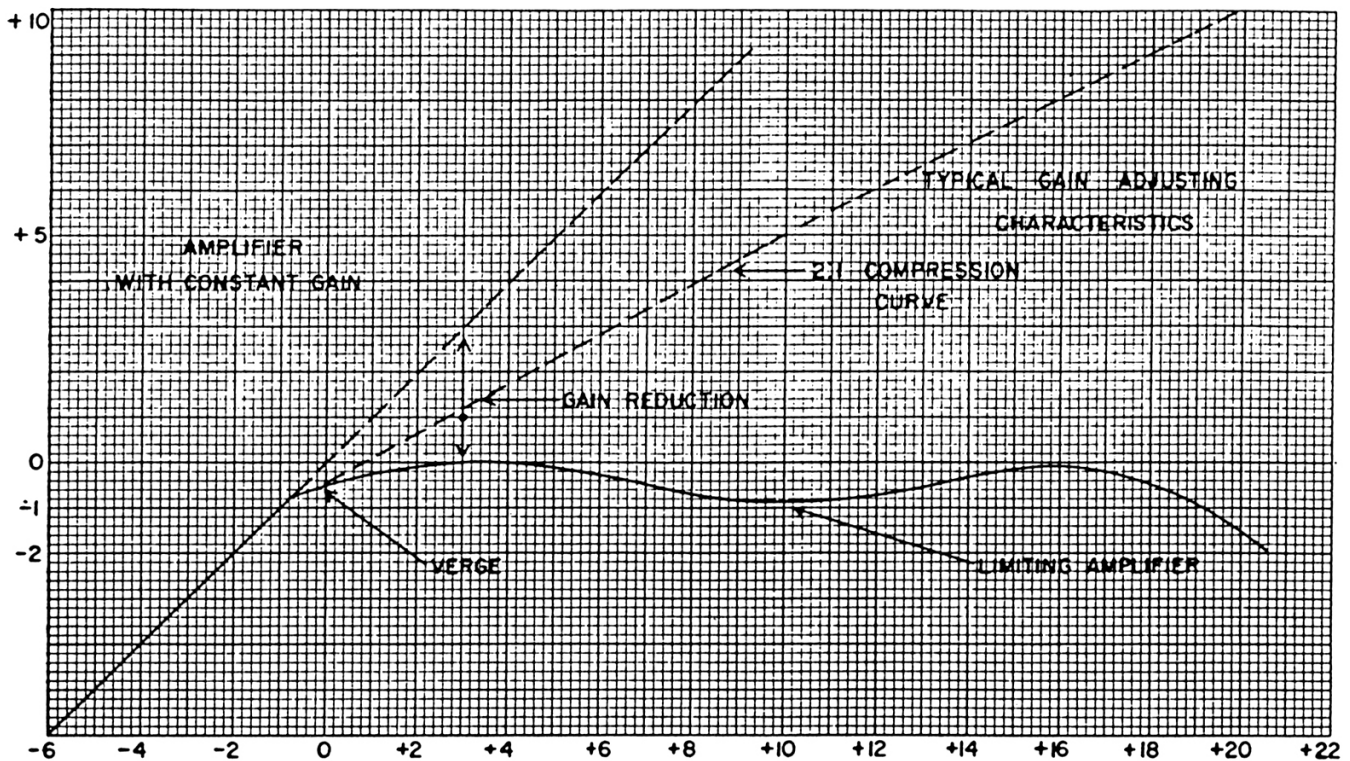
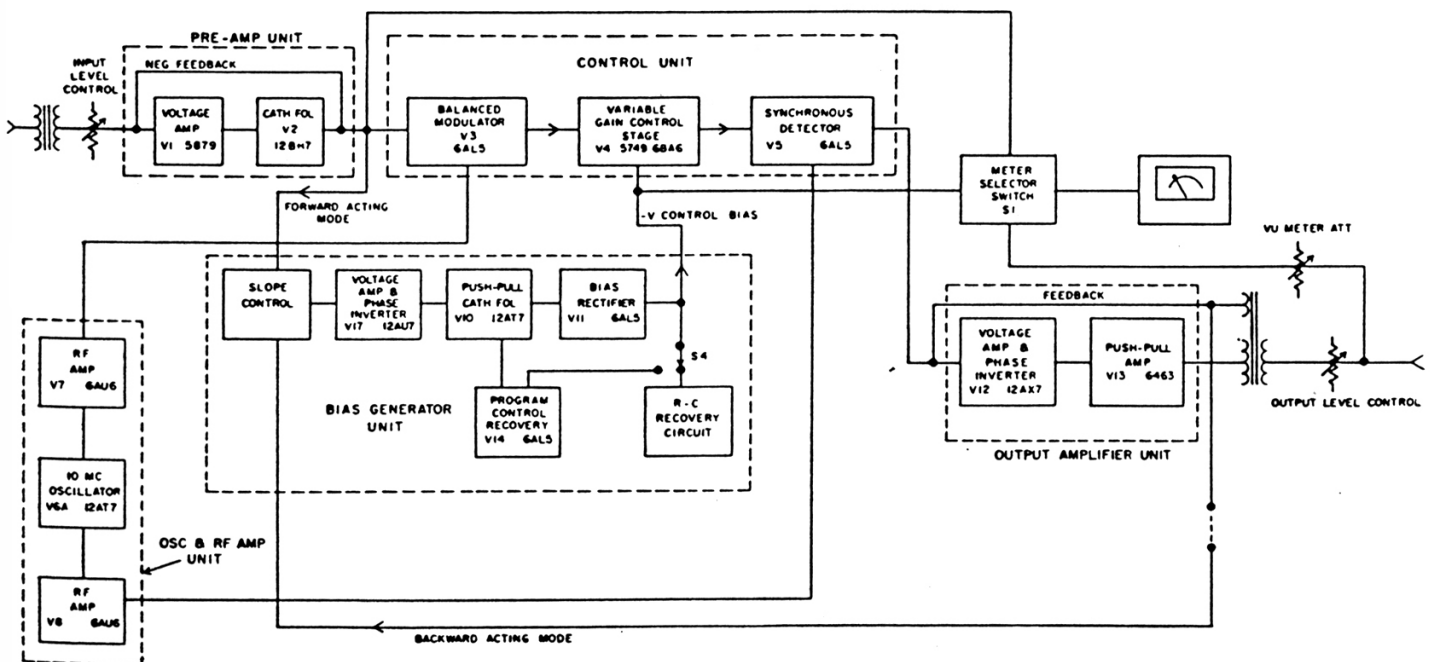

Fig. 2 Typical Gain-Adjusting Characteristics
Fig. 3 Block Diagram (C-7776695, Rev. 1)
11. Advance the INPUT gain control slowly 20 steps (1 db per step) and note the variation in output level as the input is increased. This variation should be not more than \pm 0.5 db from 0 to +18 db of input gain, and should respond approximately according to the gain reduction curve in Fig. 2. For example, when the INPUT level control is advanced 4 to 5 steps, the output level should increase $-\frac{1}{2}$ VU to a zero maximum. If the output level variation does not agree with the gain reduction curve, make adjustments according to paragraphs 12 and 13, below.
2. Feed a 1 kc signal into the unit, adjusting the input level until the VU Meter indicates a maximum output (zero relative level as shown on Fig. 2).
When the Limiter Amplifier is employed for recording purposes, it may be desired to use it in a backward-acting mode of operation. As shown in Fig. 3, audio voltage is taken from the Amplifier output to generate control bias. A 2:1 compression ratio is recommended (see Fig. 2). The following wiring changes are required:
output level change. For each 1-db increase in input the output level should increase 0.5 db (see Fig. 2). It may be necessary to re-
adjust the SLOPE and DELAY BIAS controls to produce the proper 2:1 compression curve as shown on Fig. 2.
The Limiting Amplifier is composed of five sections (refer to the Block Diagram, Fig. 3 and the Elementary Diagram, Fig. 5). The five sections are:
A measure of the limiting action is the "compression rate." This is the ratio of the change in input level (in db) to the change in output level (in db) for a stated increase in input level above threshold. Thus the compression ratio of a limiting amplifier tells how effectively it holds the output constant when the peak input signal exceeds the threshold value. Fig. 2 shows that the Type BA-7-A Limiting Amplifier, over a 20 db gain reduction range, has a compression ratio of better than 20:1. The variation of the output level is less than 1 db over this range. This high compression ratio is due to the use of control voltage obtained from the pre-amplifier. Constant output is thus obtained above the threshold point because, as the input signal increases, the d-c control bias also increases the same amount to hold the output constant. The use of the DELAY BIAS control (R67), the SLOPE control, and its associated logarithmic voltage correction network, maintain close control of this relationship.